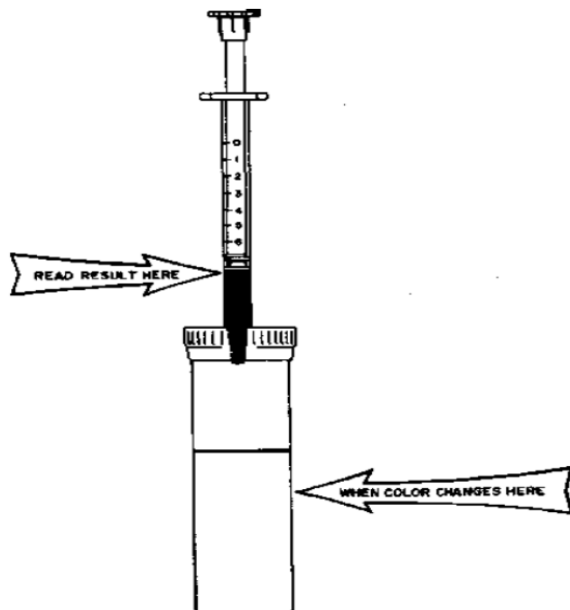

Fig 2 - Insert titrator into tube and add reagent dropwise
- 7 Insert the titrator through the hole in the cap of the titrator tube (Fig 2).